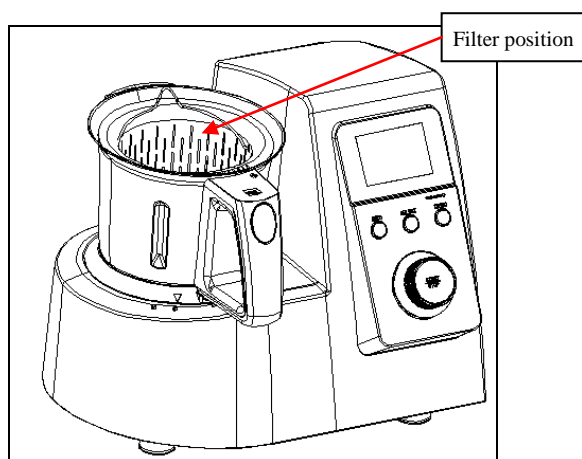

Figure 21
Step 1: Put in 500g water at least in SS jar. If need to use with filter together, please put filter into SS jar firstly (Figure 21), and then put food (such as rice and potato) in filter, put cover and ensure the bottom being fastened well and twist in right place.